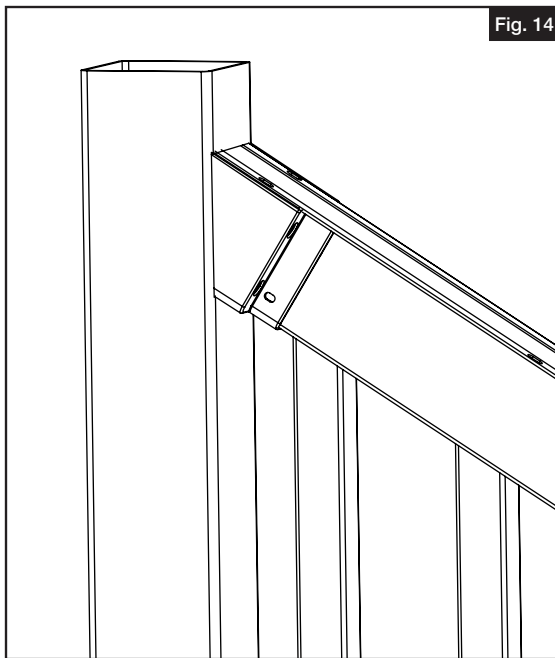

Fig. 14
- b. Drive #10 x 3/4" screws up from under rail centered through slotted holes and into deck board (Fig. 14).
- a. Slide handrail bracket over ends of railing (Fig. 14). Measure angle required and cut bracket and rail (and aluminum channel) to that angle.